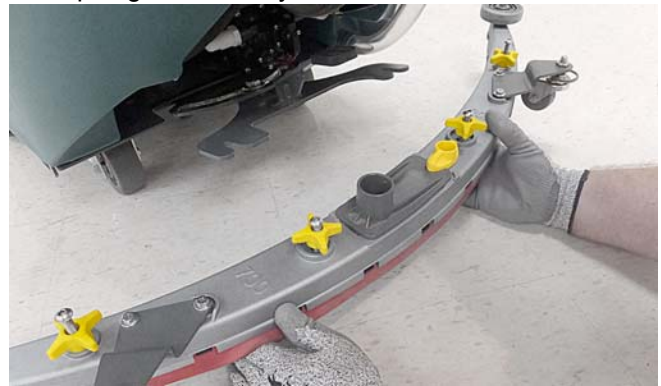

FIG. 5
2. Mount the squeegee assembly to the squeegee mount bracket (Figure 5). Tighten knobs to secure squeegee assembly to bracket.